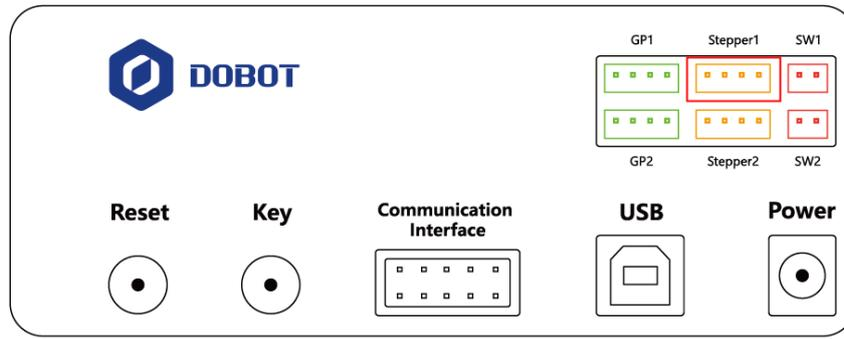

Figure 5.81 Connect with extruder
Step 6 Connect the extruder to the **Stepper1** interface on the back of the base with motor cable, as shown in Figure 5.81.